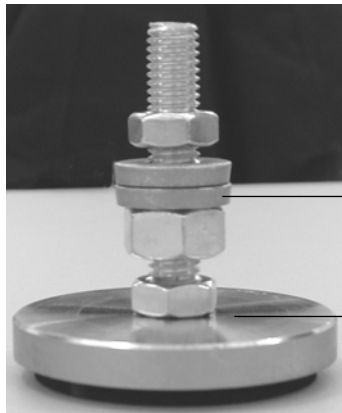

Figure 1
- 7.2.8. After you remove the ChipBLASTER from the skid take the set of four feet and install the studs of the leveling feet through the holes in the legs. Block unit while installing feet for safety. Reference; top of foot to the bottom of second nut (1"). The feet have two functions the first being to level the ChipBLASTER unit and the second being to help eliminate the transfer of noise. Refer to figure 1.